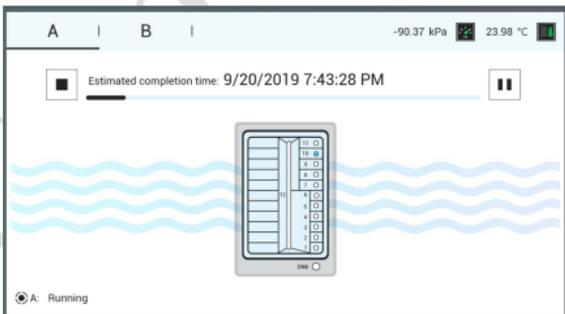

Figure 5-10: MGIDL-T7 Wash Interface
- MGIDL-T7 wash starts, see figure 5-10: